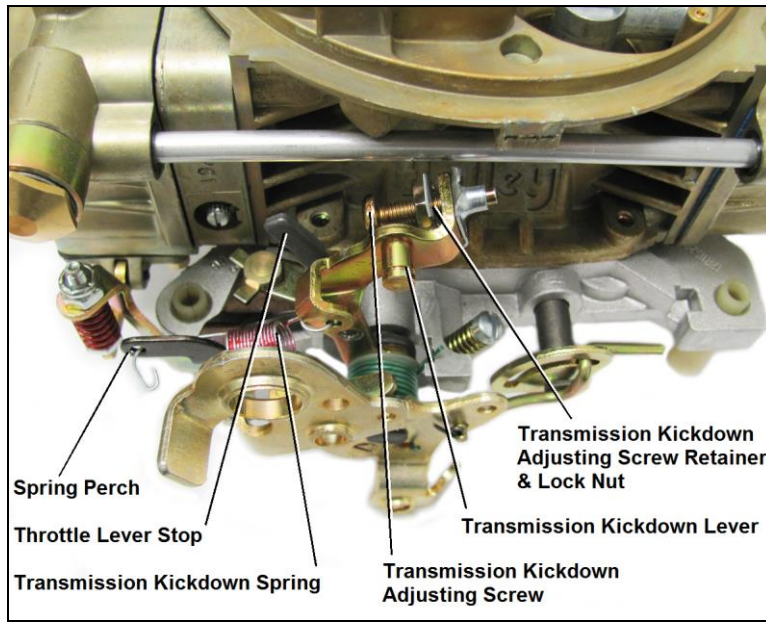

Figure 4
2. Insert the transmission kickdown adjusting screw and lock nut with the retaining clip on the transmission kickdown lever (Figure 4).
4. Install the transmission kickdown spring between the transmission kickdown lever and spring perch (Figure 4).